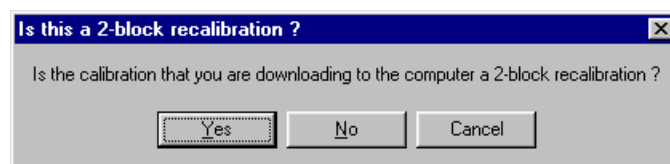

Figure 6–3. Two-Block Recalibration Query
8. During the recalibration procedure, the gauge can interface with the computer through a custom RS-232 cable connected directly to the computer, or through the Troxler Calibration System Controller. The program now asks the user to select which interface is to be used, as shown in Figure 6–4.